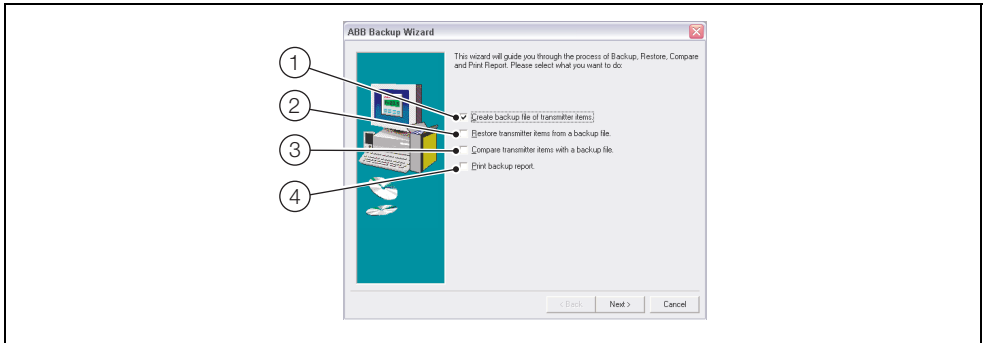

Fig. 6.4 ABB Backup Wizard
ABB Backup Wizard – Fig. 6.4
1. Referring to Fig. 6.4, select option (1) and click  to continue. The 'ABB Backup Wizard (Backup)' screen is displayed:
1. Referring to Fig. 6.4, select option (2) and click  to continue. The 'ABB Backup Wizard (Restore)' screen is displayed:
1. Referring to Fig. 6.4, select option (3) and click  to continue. The 'ABB Backup Wizard (Compare)' screen is displayed:
1. Referring to Fig. 6.4, select option (4) and click  to continue. The 'ABB Backup Wizard (Print Report)' screen is displayed: